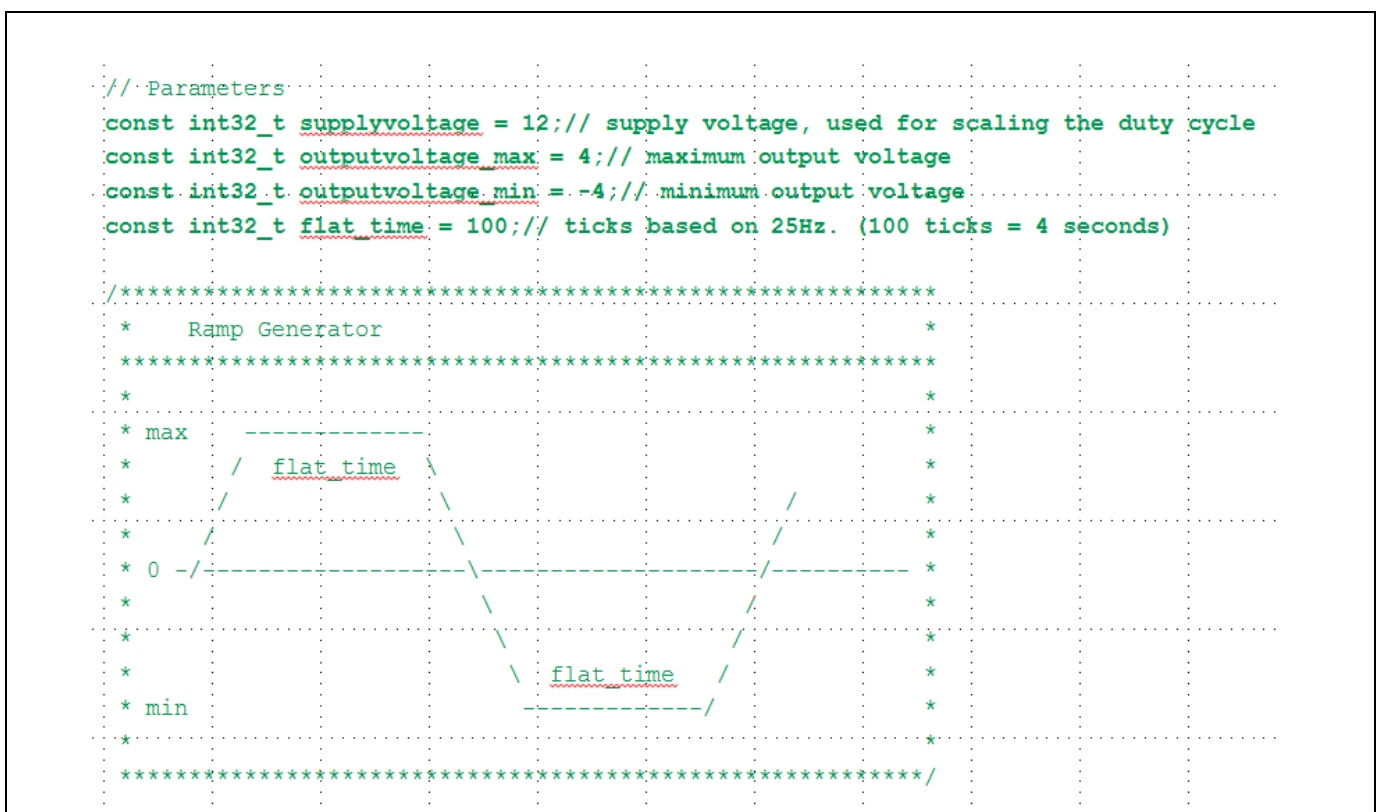

Figure 14 Ramp generator and its parameters
- Figure 14 shows the ramp generator and the parameters which can be set in main.c. The parameter “outputvoltage_max” and “outputvoltage_min” are controlled in the software by adapting the PWM duty cycle. With the duty cycle the motor speed and current consumption in controlled.